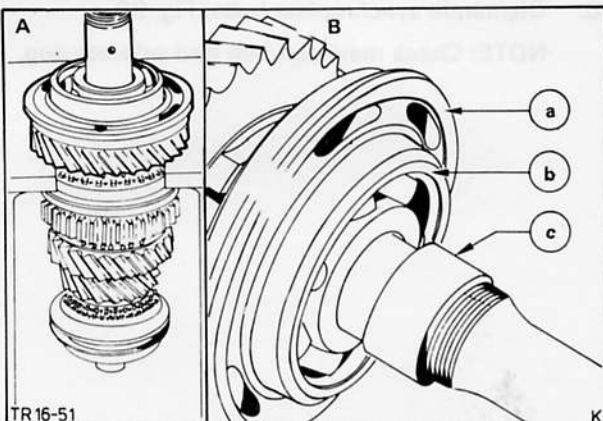

Fig. 77. A – Bearing with retainer and spacer sleeve
15. Remove spacer sleeve and press off ball bearing complete with bearing retainer, Fig. 77.